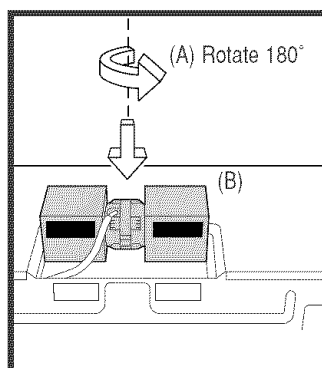

Figure 9
3. Rotate the Hood Fan Unit 180° so that the fan blade openings are facing the back of the oven. See Figure 9 (A). Replace Hood Fan Unit into the oven. Be careful not to pinch the wire and the Hood Fan Unit. See Figure 9 (B).